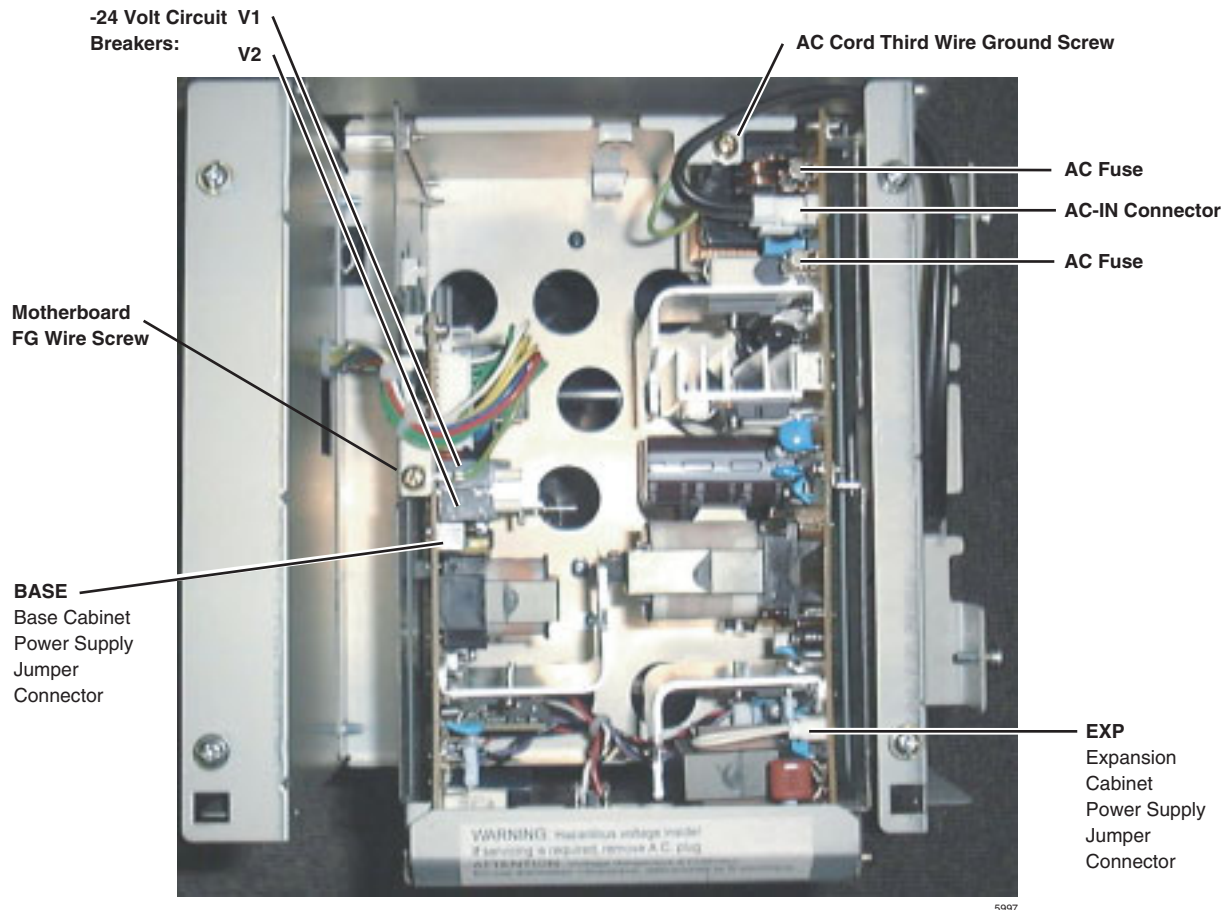

Figure 2-14 Power Supply Connectors Top View
The APSU112 provides two -24v circuit breakers as shown in Figure 2-14. If a low resistance between -24 volts and ground exists the circuit breaker will trip. Usually the front panel DC green LED indicator will turn off but not always. Also if AC power is recycled the DC LED indicator may turn back on – even if the -24 volt circuit breaker is tripped.
Circuit Breaker Location and Slot Assignments (see Figure 2-14)
The APSU112 provides two AC power fuse as shown in Figure 2-14. If low resistance to ground exists the fuse may blow. The front panel AC green LED indicator will turn off.
10. Plug the BASE/EXP jumper plug into the appropriate BASE or EXP connector on the power supply (see Figure 2-14).